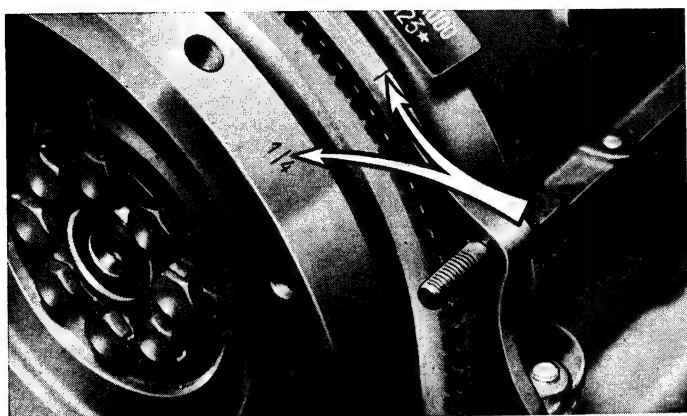
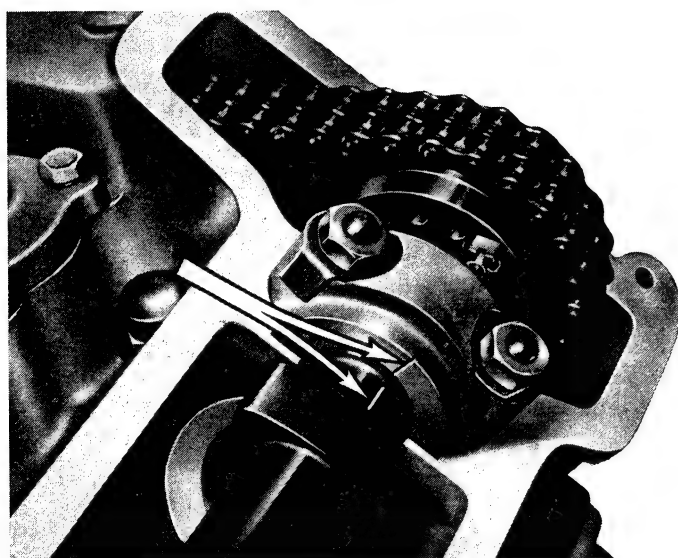

Fig. 58. - Reference marks on flywheel and crankcase for valve gear and ignition timing on engine 118 B.000.
Fig. 59. - Timing marks on camshaft and bearing - engine 118 B.000.
- Turn flywheel until its « 1/4 » reference mark lines up with the mark on crankcase (fig. 58) and the reference marks on camshafts line up with the marks on camshaft bearings (fig. 59).
- Turn flywheel until its «1/4» reference mark lines up with the mark on crankcase (fig. 58) and see to it that the reference marks on camshafts line up with the marks on camshaft bearings (fig. 59).